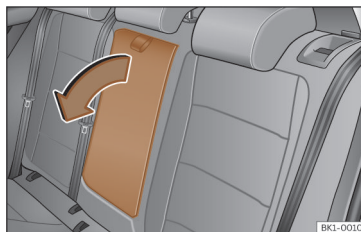

Fig. 91 Folding rear centre armrest (schematic view).
- To *lower* the armrest, pull the cord in the direction of the arrow >>> **Fig. 91**.